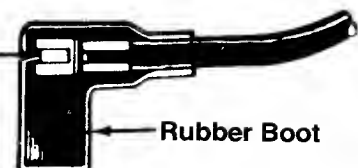

FIGURE 4.
1. Attach spark plug wire to spark plug. Make certain the metal loop on the end of the spark plug wire (inside the rubber boot) is fastened securely over the metal tip on the spark plug. See figure 4.